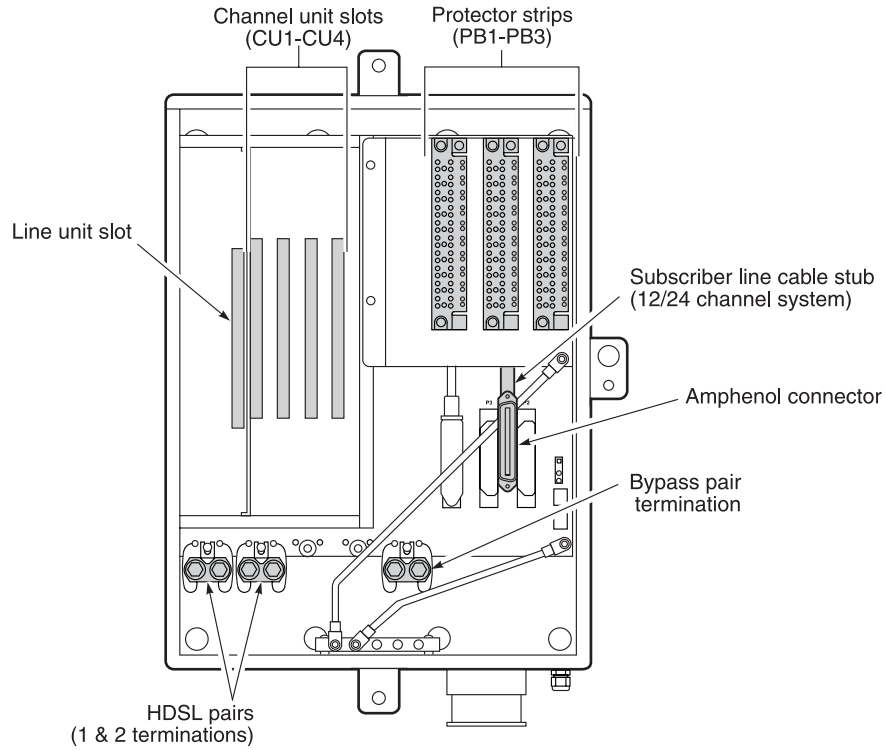

Figure 5. FRE-765 List 4F RT Enclosure (Interior View)
- List 4F—see Figure 5 on page 4